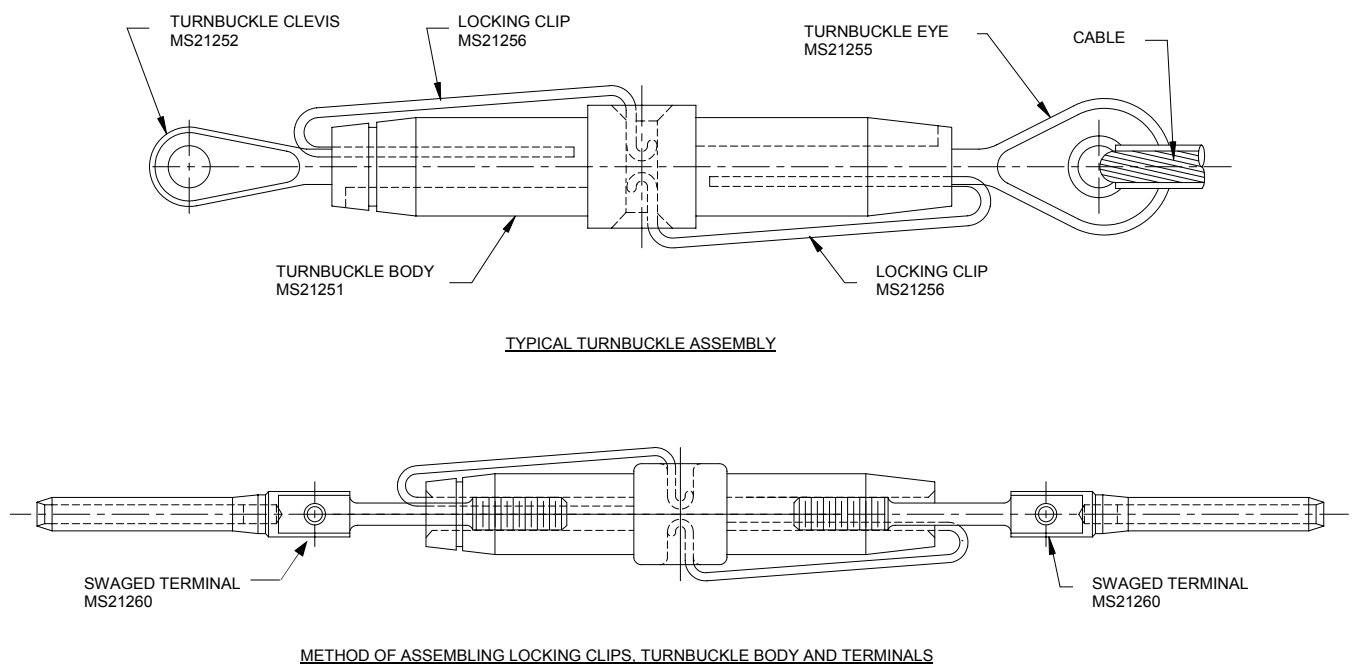

FIGURE 1. Clip locking of turnbuckle assemblies.
2. After the turnbuckle has been adjusted to its locking position, with the slot indicator groove on the terminals and slot indicator notch on body aligned, insert the end of the locking clip into the terminal body, as illustrated in figure 1, until the U curved end of the locking clip is over the hole in the center of the body. Press the locking clip into the hole to its full extent. The curved end of the locking clip will expand and latch in the body slot. To check proper seating of the locking clip, attempt to remove pressed U end from body hole with fingers only. (Do not use tools as locking clip could become distorted.)